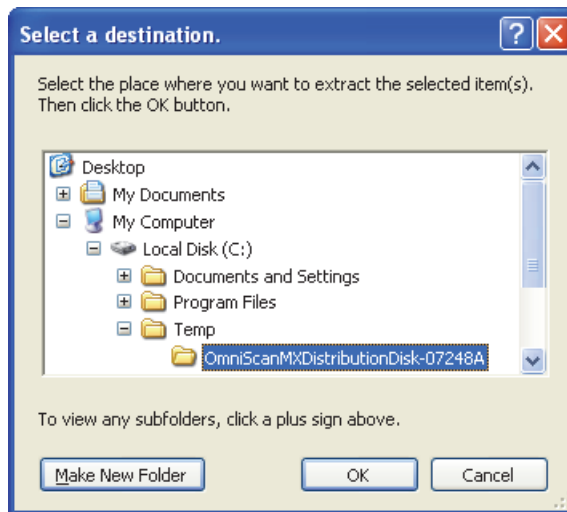

Figure 4-8 The Select a destination dialog box with an example of a destination folder
11. In the **Select a destination** dialog box, select a folder where you want to store the extracted files, and then click **OK** (see example in Figure 4-8 on page 82).